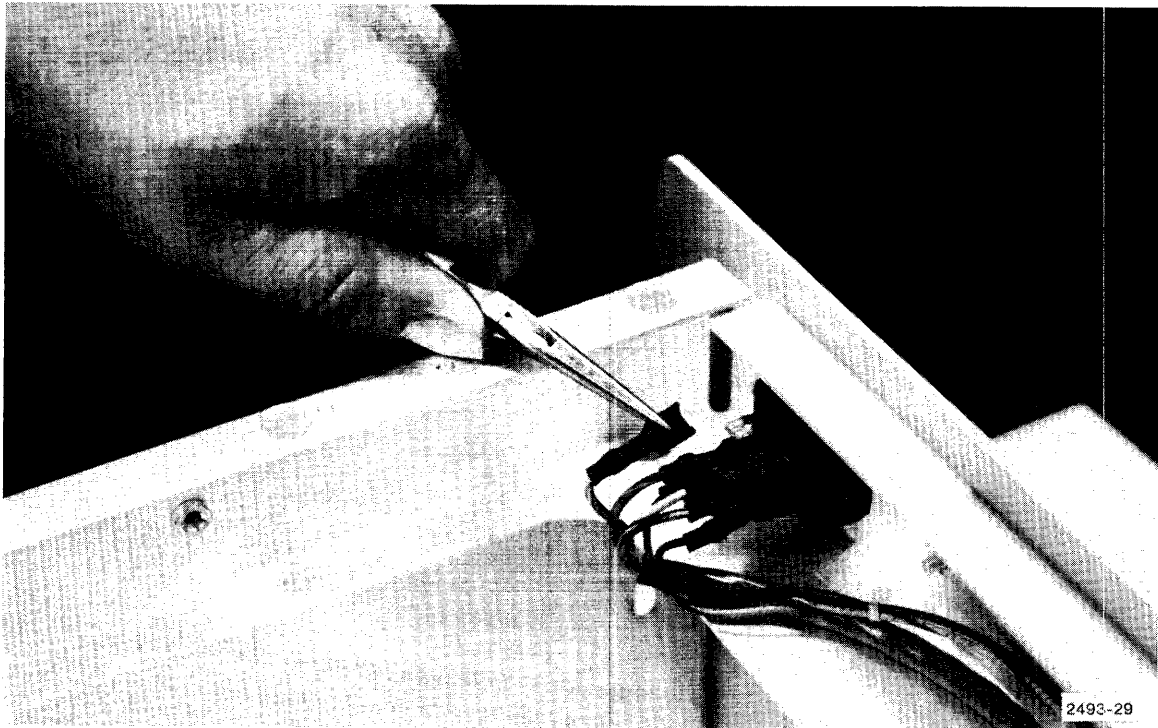

Figure 7-3. Removing power switch connectors.
- g. Remove power switch connectors (Figure 7-3).